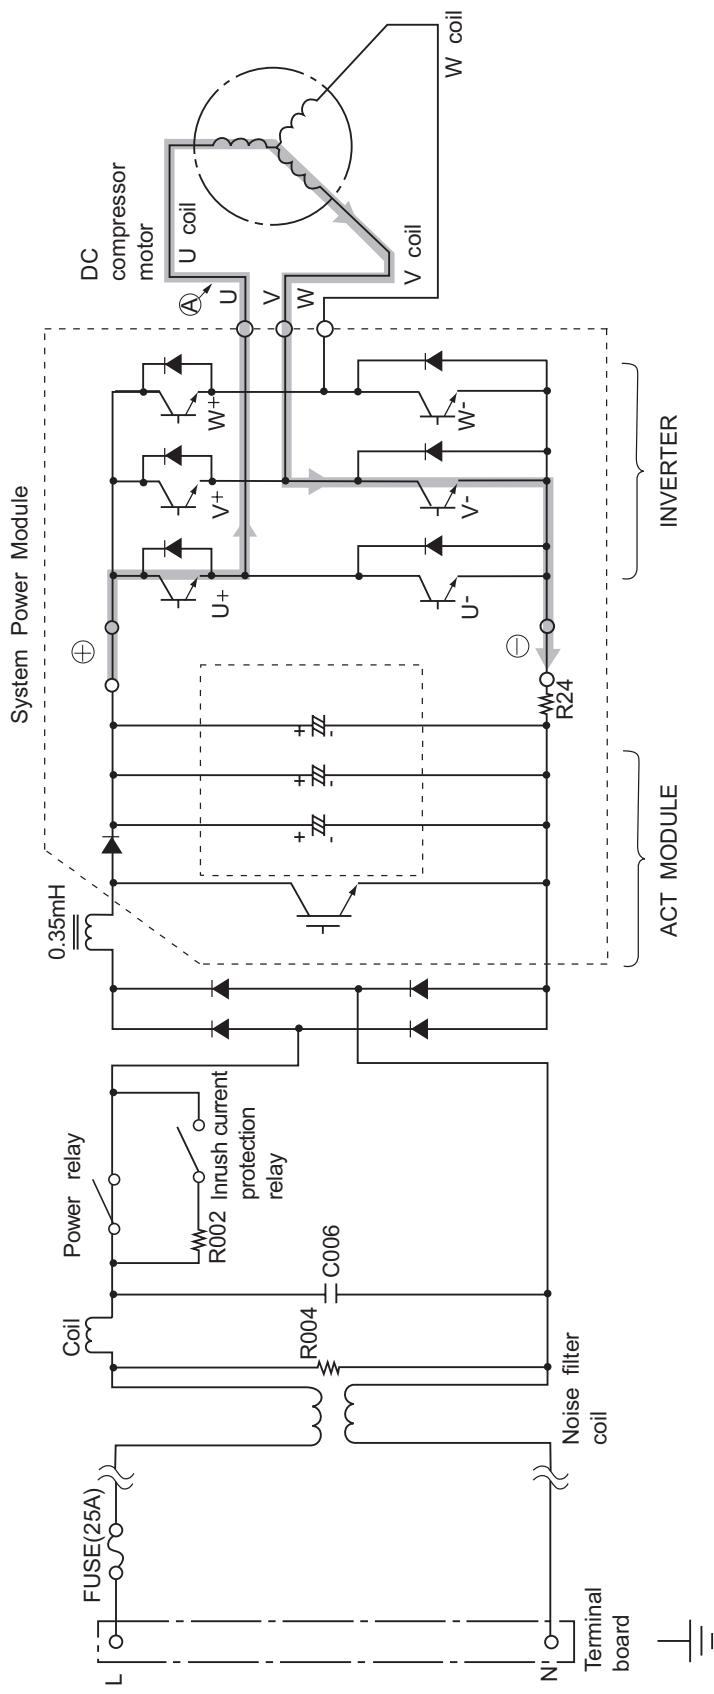
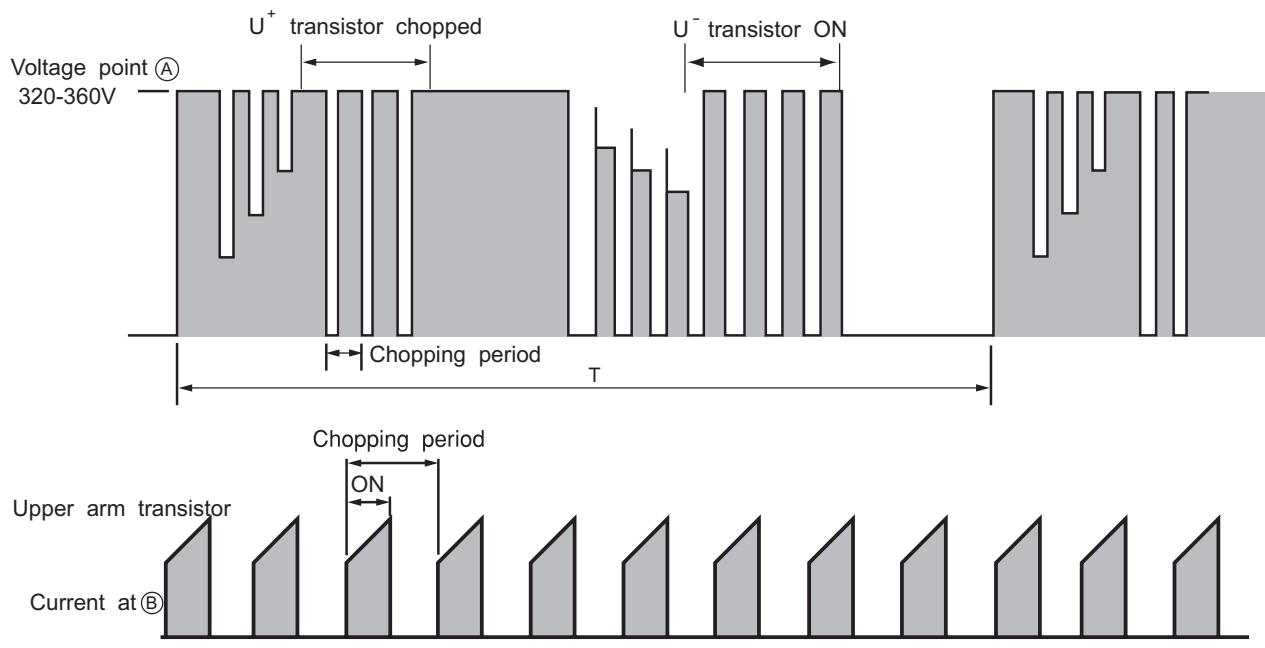

Fig. 3-1 System power module circuit (U^+ is ON, V^- is ON)
Fig. 3-3 Voltage waveform at each point
- Fig. 3-1 shows the system power module and its peripheral circuits. (Current ACT module and power module are combined into one unit.)
- Fig. 3-3 shows voltage / current waveform at each point shown in Figs. 3-1 and 3-4. First half of upper arm is chopper, second half is ON, and first half of lower arm is chopper, second half is ON.
- When power is supplied U⁺ → U⁻, because of that U⁺ is chopped, current flows as shown below; ⑧
- When U⁺ transistor is ON: U⁺ transistor → U coil → V coil → V⁻ transistor → DC current detection resistor → Point ⑧ (Fig. 3-1)
- Since current flows at point ④ only when U⁺ transistor and V⁻ transistor is ON, the current waveform at point ④ becomes intermittent waveform as shown in Fig. 3-3. Since current at point ④ is approximately proportional to the input current of the air conditioner, input current is controlled by using DC current (Id) detection resistor.